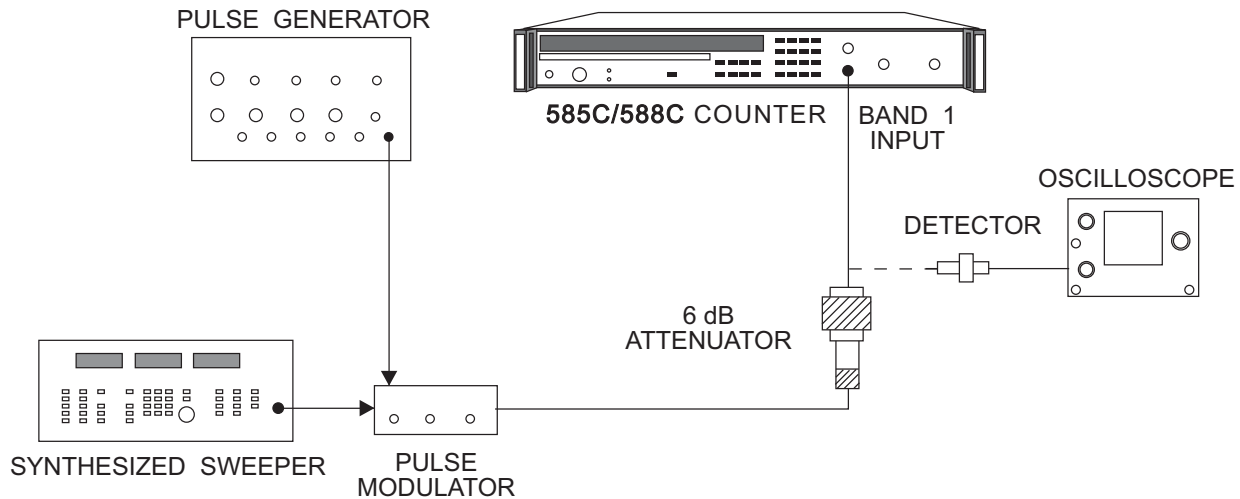

Figure 6-10. Band 1 Distortion Error Test Setup
1. Connect the equipment as shown in Figure 6-10. The 6 dB attenuator should be at the input of the counter.
4. Connect the signal to the oscilloscope as shown in Figure 6-10. Set the synthesized sweeper frequency to 250 MHz, and set the power to +10 dBm.